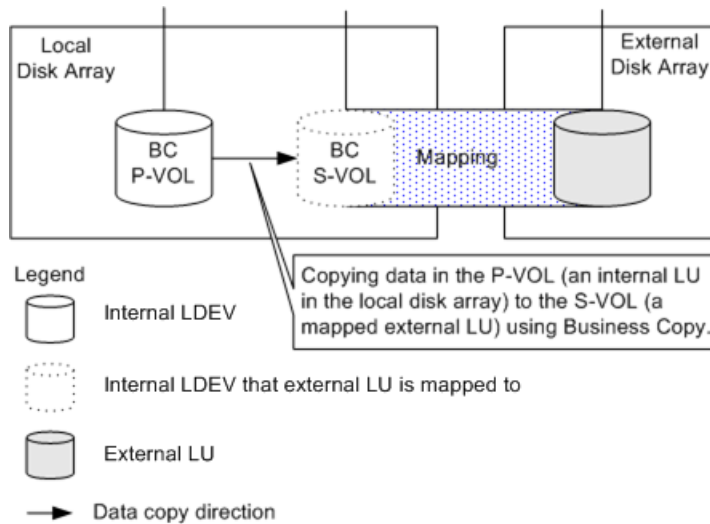

Figure 396 Business Copy operations using an external LU
Figure 396 shows an example using an external LU for Business Copy (BC) operations. The mapped external LU is set as the S-VOL of the BC pair. The local disk array internal XP LDEV is set as the P-VOL of the BC pair. For detailed information about Business Copy operations, see page 413.